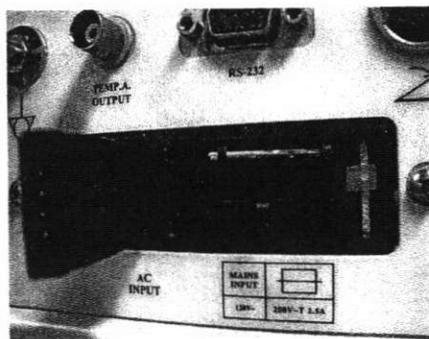

Figure 2
8.2.3. Remove the fuse holder as shown in Figure 2 and 3.